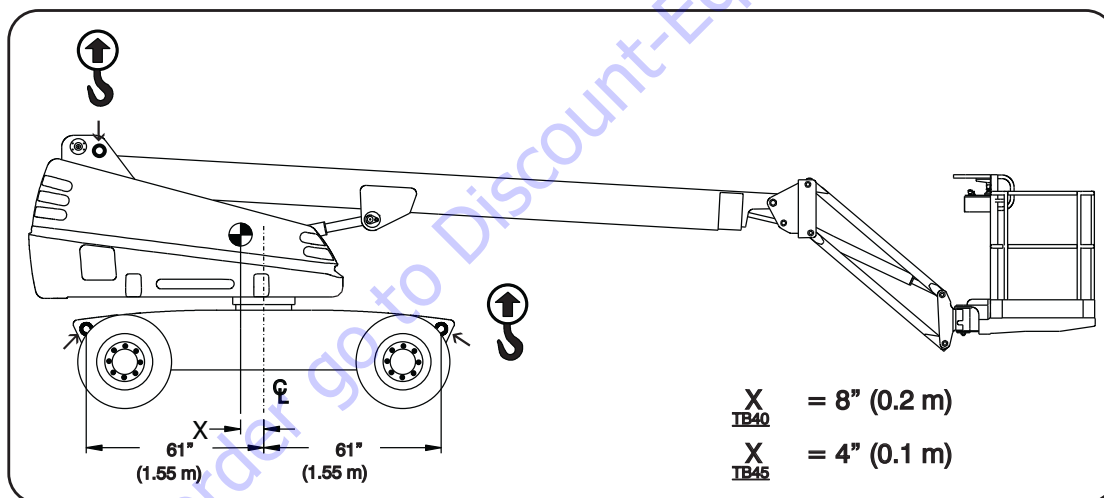

Figure 12 Lift points and center of gravity
1. Rotate the boom and position the MEWP as shown in Figure 12.
When you hoist the MEWP, the lifting devices must be attached to the designated lift points only. Refer to Figure 12.
4. Attach the rigging to all four lift points as shown in Figure 12.
5. Adjust the rigging to make sure the MEWP stays level when you hoist it. Refer to Figure 12 for the center of gravity location.